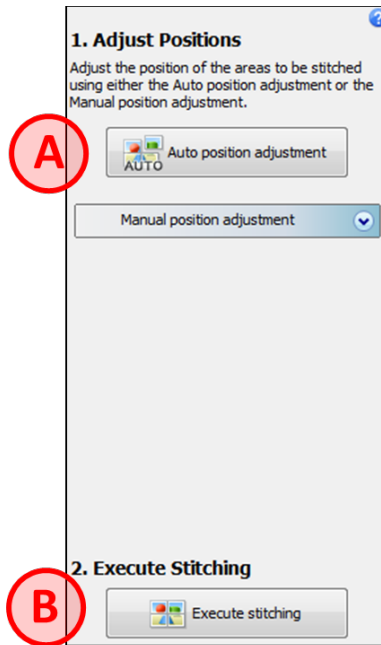

Figure 7 - Right-Side of Stitching Screen after Image Capture
- 2.7. Click the **(A) Auto position adjustment** button that appears on the right of the *Stitching* screen after the image capture is complete (Figure 7).
- 2.8. Click the **(B) Execute Stitching** button that also appears on the right of the *Stitching* screen (Figure 7).